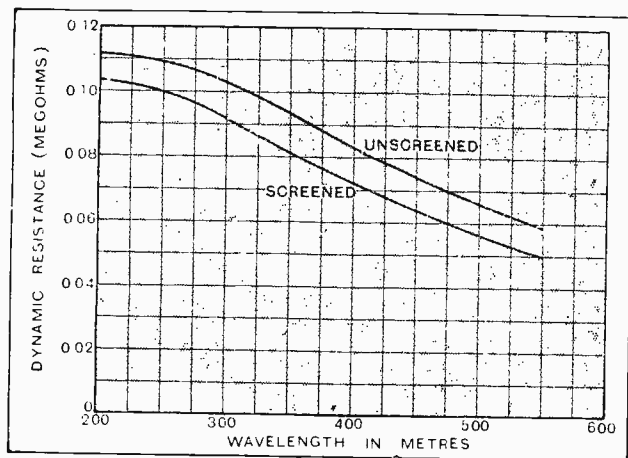

Fig. 4.—Dynamic resistance of tuned circuit including 1½ in. coil screened and unscreened. (Coil No. 1.)
coils, and especially the smallest coil of all, show higher efficiency than one might have expected ; as a matter of interest, the dynamic resistance of the circuit, including the 1½ in. coil, screened, is shown for the broadcast range of wavelengths in Fig. 4.
The illustrations give a general idea of the equipment as it appears when installed on board. The drawing, Fig. 4, shows the case containing the rotating frame aerial above, and below, the receiver and other apparatus associated with it. The two cases are joined by the driving shaft which rotates the frame aerial through the medium of two universal joints.
In operating the apparatus the listener first tunes in to the transmitting station under observation. This is done on the single tuning control (13), (Fig. 4), and tuning can be sharpened by means of the vernier control (12). The intensity of reception is then adjusted to a convenient level. In order to obtain a heart-shaped diagram and avoid the possibility of ambiguity in readings between two possible minima, the coupling of the vertical antenna to the receiver frame has to be adjusted, as has already
Fig. 4.—Diagrammatic illustration of the whole equipment. The case containing the rotating frame aerial is shown above and the receiver and associated equipment below.